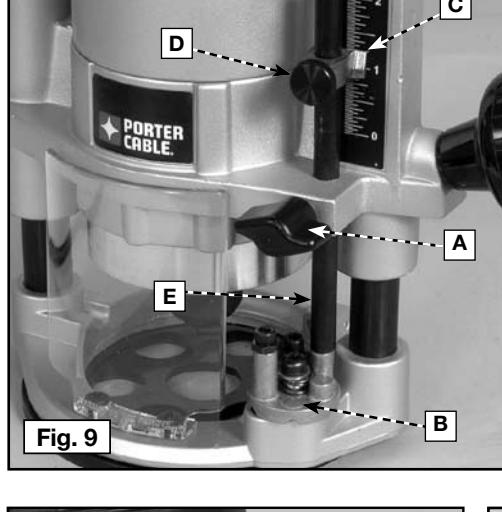
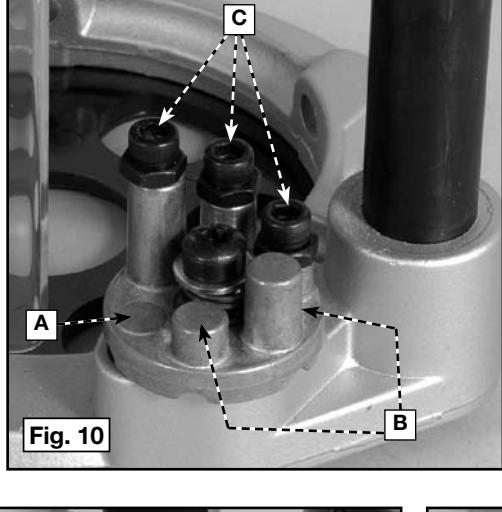
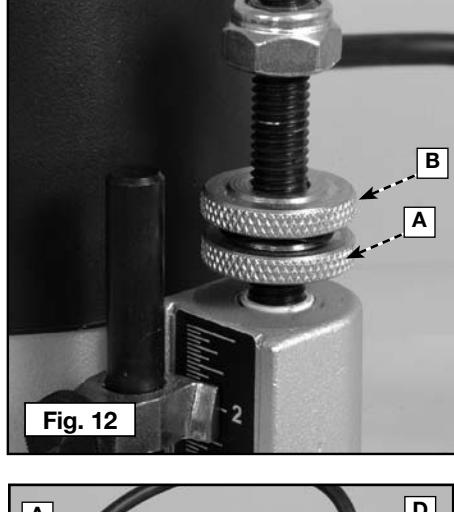

Fig. 9
Fig. 10
Fig. 12
1. Loosen the depth rod locking knob (A) Fig. 9, and the depth indicator knob (D), allowing the depth rod (E) to contact one of the turret stops (B). Normally the deepest desired cut is set with the depth rod resting on the shortest turret stop (A) Fig. 10. The other two fixed stops (B) Fig. 10 provide reduced cutting depths of 1/4" (6.4 mm) and 1/2" (13 mm) respectively. You can adjust the three stops (C) Fig. 10 to any desired height. You can utilize any combination of fixed and/or adjustable stops to achieve the desired depths required for a particular job.
4. Position the depth indicator (C) Fig. 9 at the "0" position and tighten the knob.
5. Loosen depth-rod locking knob (A) Fig. 9. Raise the indicator until it aligns with the graduation representing the desired depth of plunge. (The example in Fig. 12 shows setting for 1" plunge.)
6. Turn the lower travel-limiting nut (A) Fig. 12 until it is approximately 1/4" above the top of the plunge housing. While holding the lower nut, turn the upper nut (B) until it "jams" against the lower nut (A) Fig. 12.